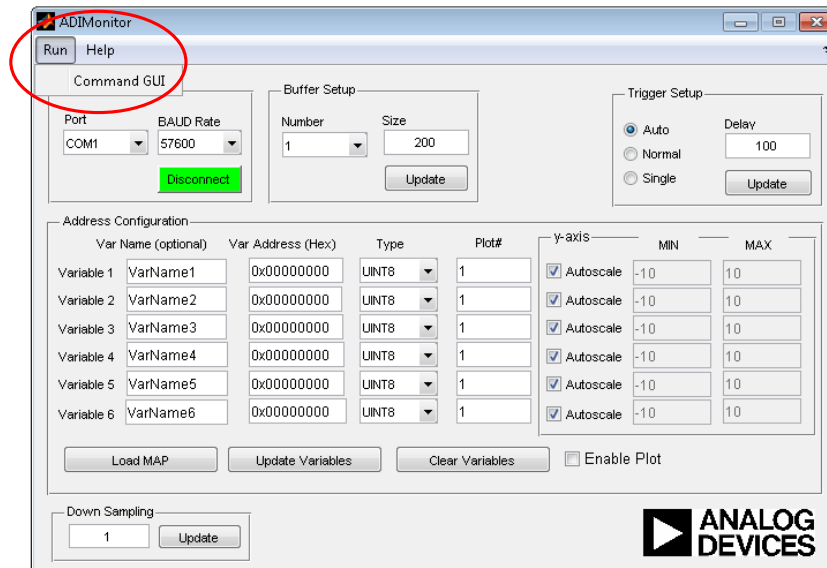

Figure 13 ADIMonitor, opening Command GUI.
5. In the parameter pane of ADIMonitor click *Run* → *Command GUI*, see Figure 13.